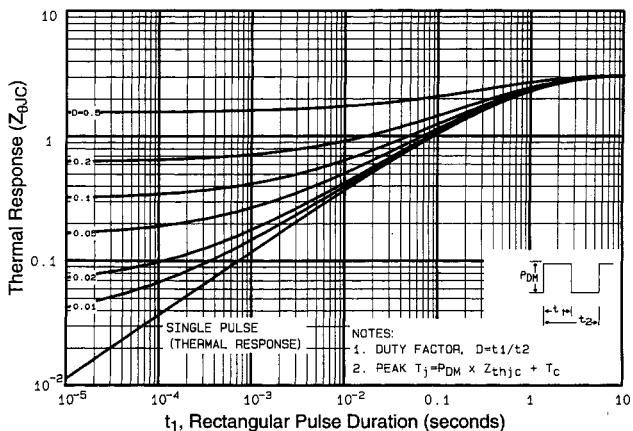

Fig 11. Maximum Effective Transient Thermal Impedance, Junction-to-Case
① Repetitive rating; pulse width limited by max. junction temperature (See Figure 11)
③ $I_{\text{SD}} \leq 8.0\text{A}$, $dI/dt \leq 100\text{A}/\mu\text{s}$, $V_{\text{DD}} \leq V_{(\text{BR})\text{DSS}}$, $T_J \leq 150^\circ\text{C}$ ⑤ $t = 60\text{s}$, $f = 60\text{Hz}$ ② $V_{\text{DD}} = 50\text{V}$, starting $T_J = 25^\circ\text{C}$, $L = 26\text{mH}$